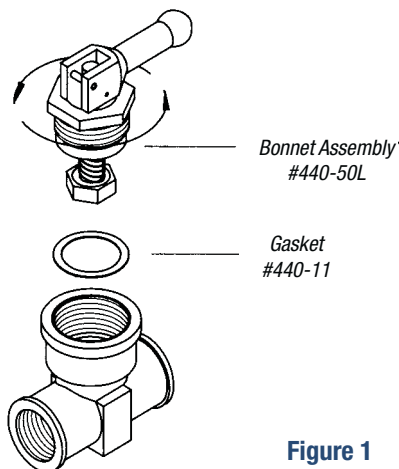

Figure 1
3. Use the 1¼" box wrench to remove (turn counterclockwise) the bonnet assembly from the valve (see Fig. 1). NOTE: An open-ended crescent wrench may not be able to remove the bonnet nut because the torque requirements are too high.
3. Use the 1¼" box wrench to remove (turn counter-clockwise) the bonnet assembly from the valve (see Fig. 1). NOTE: An open-ended crescent wrench may not be able to remove the bonnet nut because the torque requirements are too high.